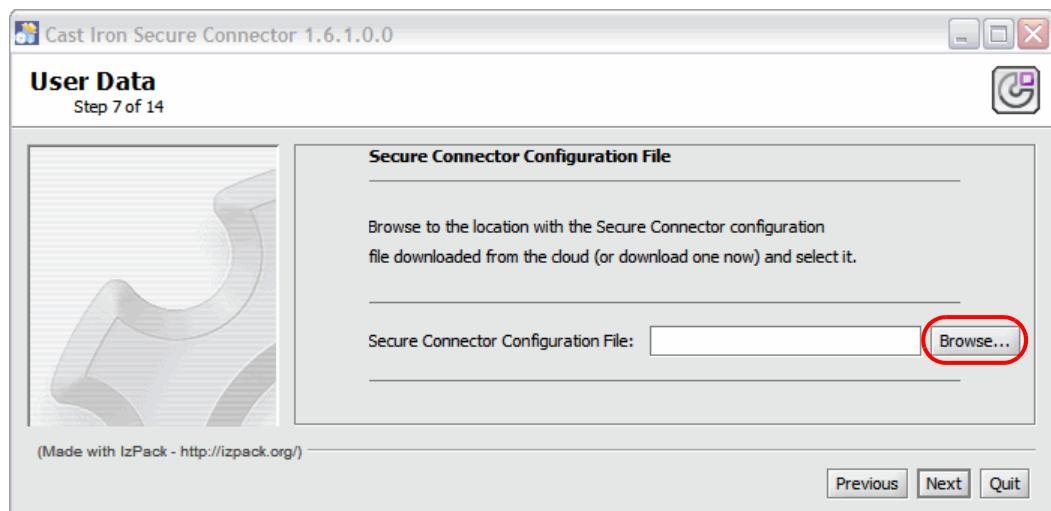

Figure 2-41 Cast Iron Secure Connector installation path to configuration file
10. Specify the location of the downloaded configuration file (SecureConnector-Test_WinTestEnvironment-Configuration) by clicking **Browse**, as indicated in Figure 2-41. Then, click **Next**.